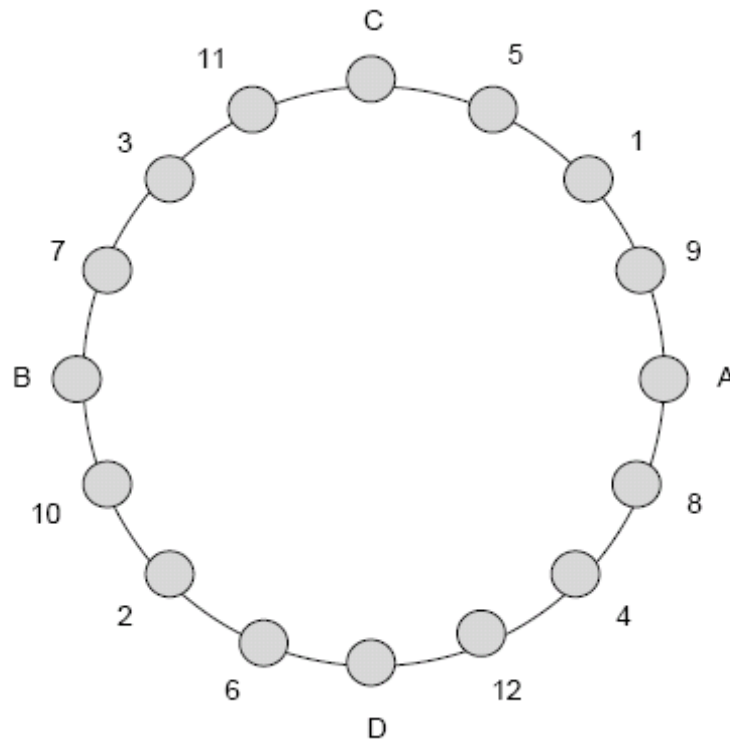

Fig 1.7, Tack Welding from OUTSIDE the vessel head
- a) Start with A then B then C then D per figure 1.7
- b) Next follow the numbers as indicated 1 through 12 in fig 1.7